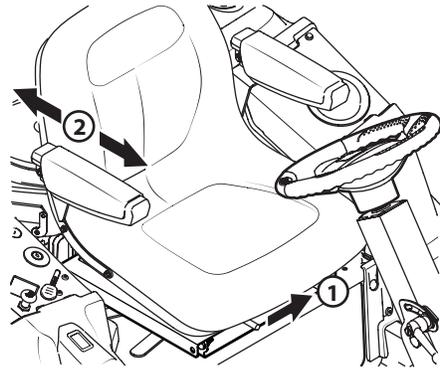

Figure 2-6
- To adjust the position of the seat, push the seat adjustment lever to the left. See Figure 2-6.
- Slide the seat forward or rearward to the desired position; then release the adjustment lever. Make sure seat is locked into position before operating the tractor. See Figure 2-6.